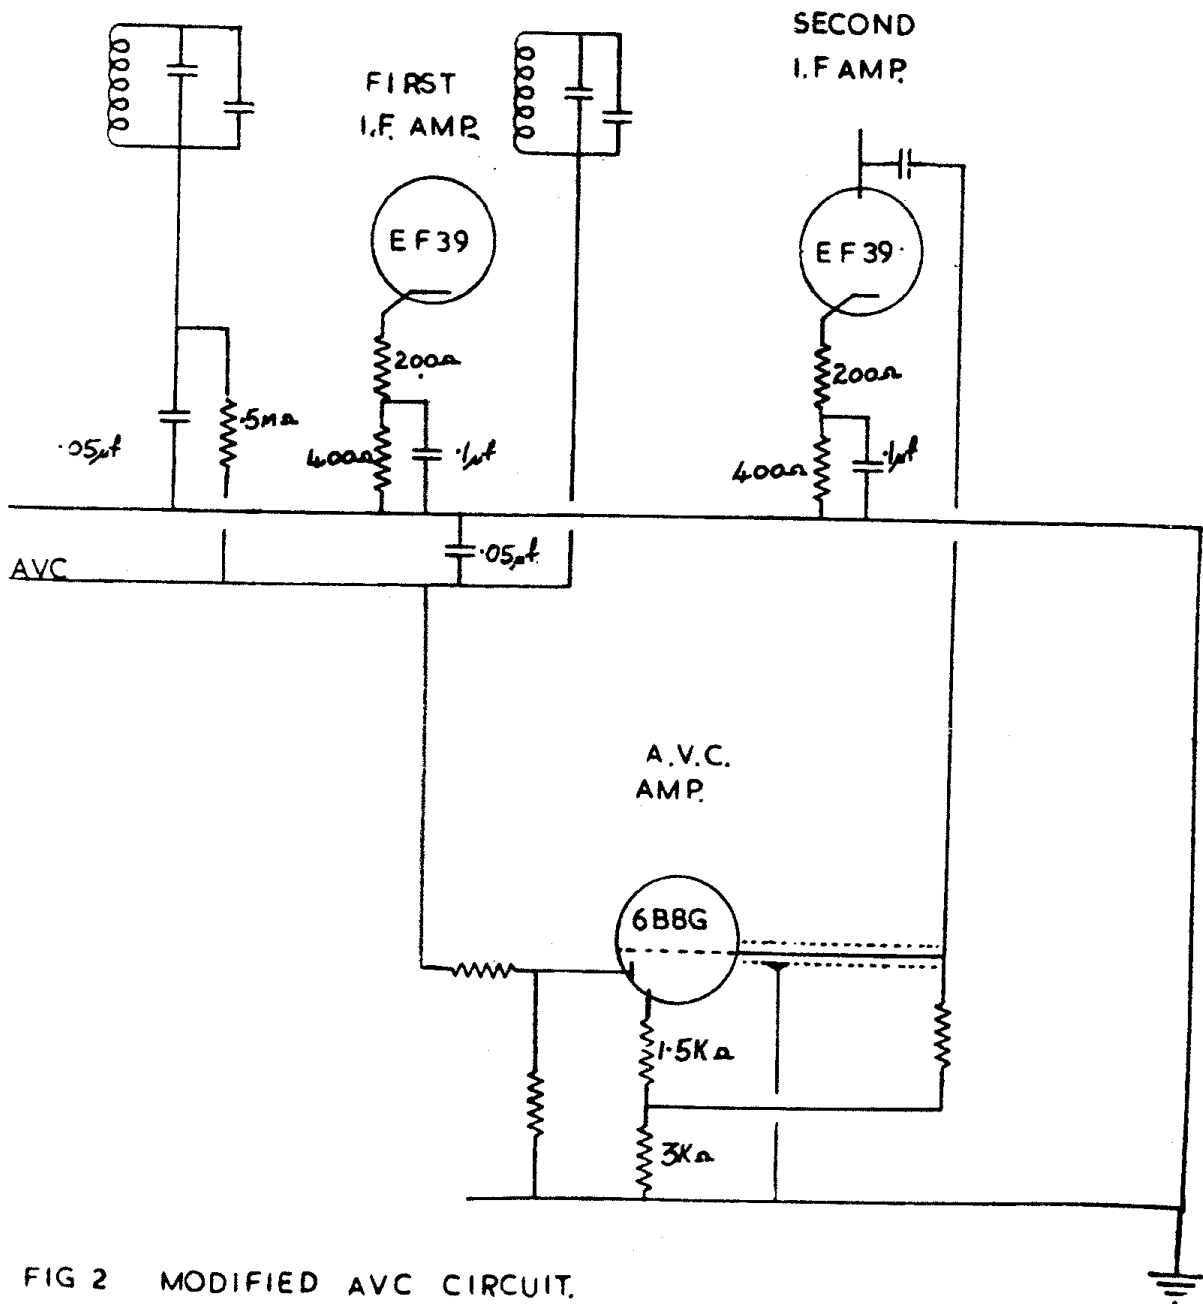

FIG 2 MODIFIED AVC CIRCUIT.
6. Remove the cathode bias resistors of the first and second I.F. amplifier valves and fit to each a 200 ohm. and a 400 ohm. resistor connected in series as in the circuit diagram (Fig.2).